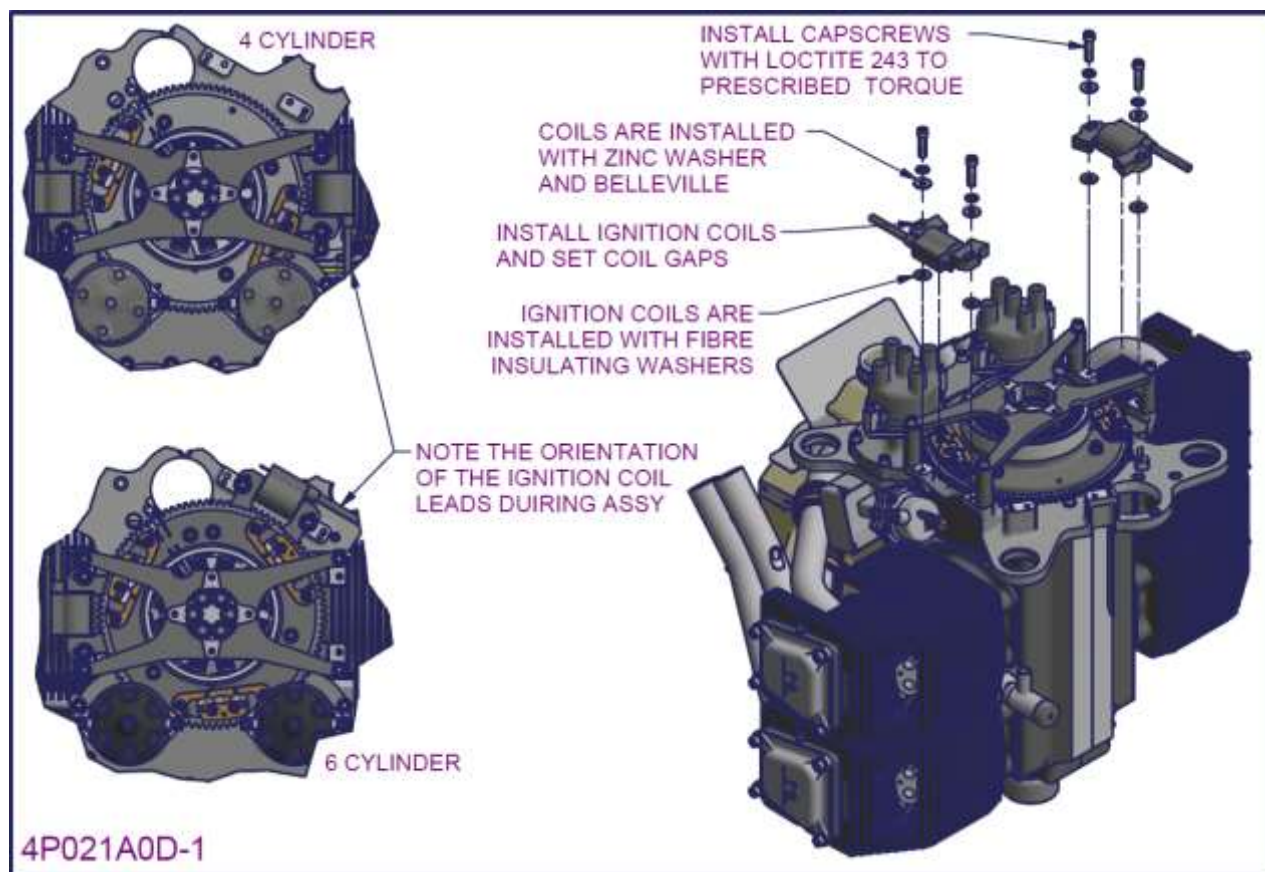

Figure 187 – 2200/3300 Ignition system installation 2
- Ensure the ignition coils are installed with the correct orientation as shown in Figure 187 (i.e. the coil leads are pointing in the clockwise direction when view from the flywheel).